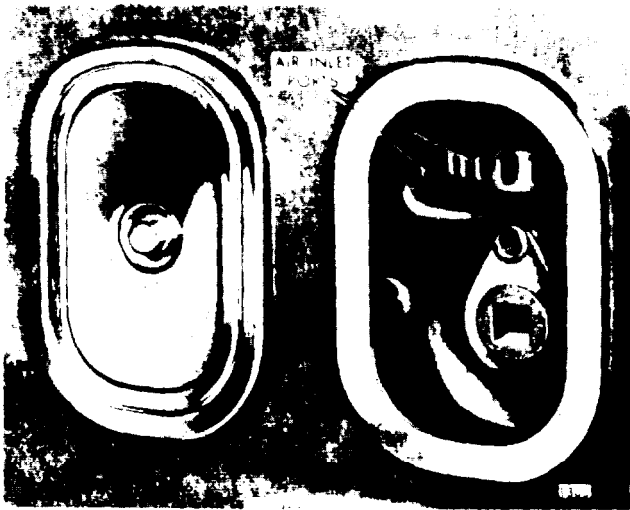

Figure 11B-3. Air Box Covers and Air Inlet Ports
10. Use a spreader bar with a suitable sling and adequate chain hoist to lift the engine from its base (see Figure 11B-6 on page 11B-4). To prevent bending of the engine lifter brackets the lifting device should be adjusted so the lifting hooks are vertical. To ensure proper weight distribution, all engine lifter brackets should be used to lift the engine.